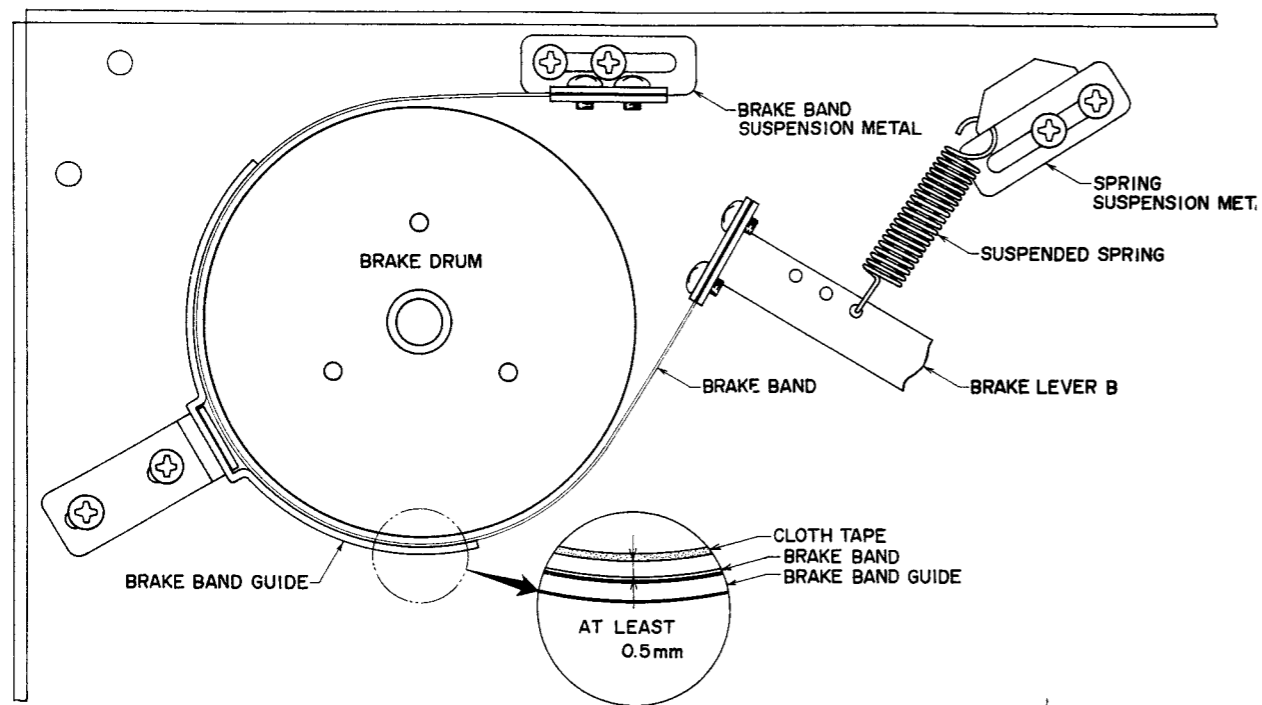

Fig. 8
- 2) Methods for brake tension adjustment are as follows: (See Fig. 8)
NOTE: Following Brake Tension Adjustment, confirm that when the machine is set to each of the various modes (except stop mode), the brake band separates from the cloth tape on the brake drum by at least 0.5 mm. (See Fig. 8)